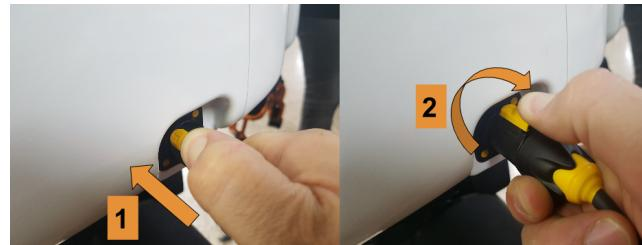

Figure 25: To plug in charger: plug and rotate right
2. Plug the battery charger to the battery, as shown in Figure 25.